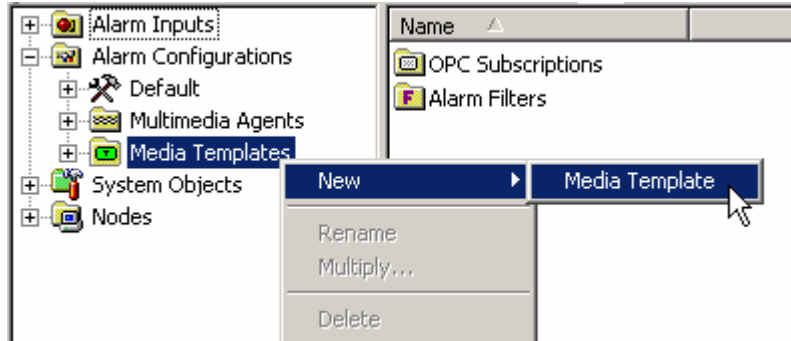

Figure 5.1. Creating a New Media Template
1. Right-click on the **Media Templates** folder on the tree control of the Multimedia Configurator screen and select **New > Media Template**, as shown in **Figure 5.1**. The **Media Templates** folder is located in the **Alarm Configurations** folder.